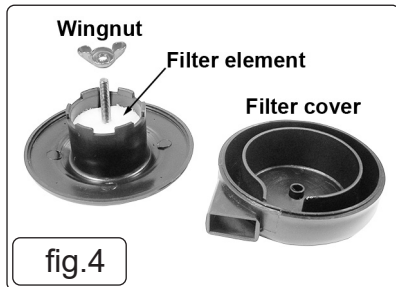

fig.4
- 4.2.2. Place a filter cover over each threaded rod protruding from the back half of the filter and secure each with a wing nut (fig 4).
**B:** Remove the filter elements (fig 4) and clean with compressed air (wear eye protection). **DO NOT** operate the compressor without the filters as foreign bodies or dust could seriously damage the pump.